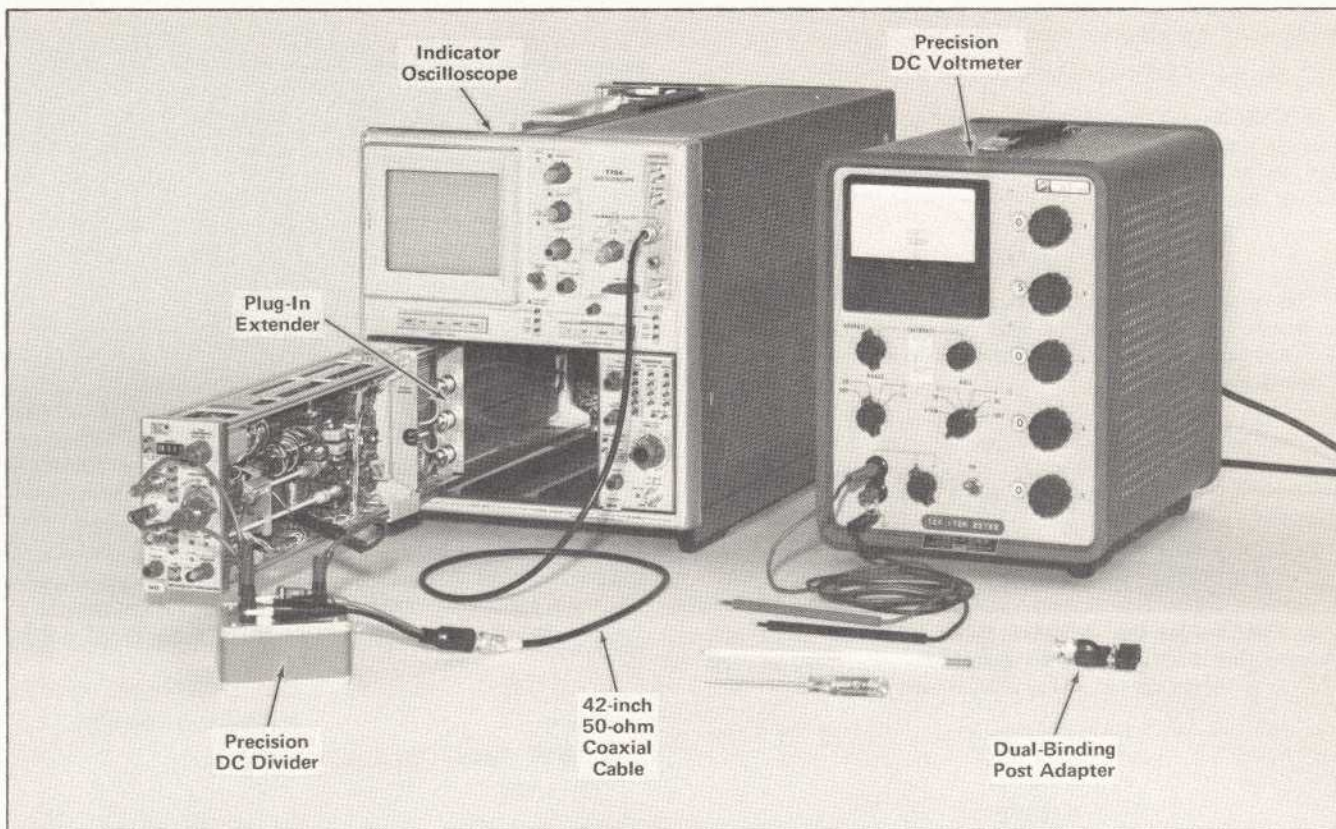

Fig. 5-7. Initial setup showing equipment required for performing calibration steps 12 through 16. To continue the Performance Check procedure, go to step 16A.
a. Test equipment setup, with connections made at completion of step 12g, is shown in Fig. 5-7.
a. Reconnect the Precision DC Divider in the same manner as was described in step 12 and illustrated in Figs. 5-7 and 5-8. Be sure the 1 megohm 1% resistor is connected from the Precision DC Divider Voltage Output connector to Gnd.